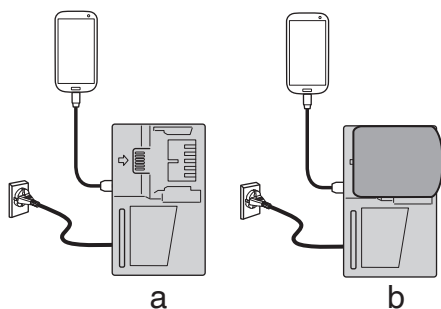

Fig. 3
- (1) Select a charging method
- Charging a USB device from a electrical outlet (Fig. 3-a)
- Charging a USB device and battery from a electrical outlet (Fig. 3-b)